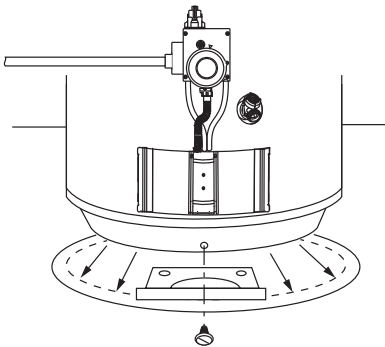

Figure 20: Setting the Water Heater in place.
- 6** Set the water heater in place against the lip of the duct assembly as shown in Figure 20.
5. Vertical and horizontal runs must be securely supported at 3-1/2 foot (1.07 m) intervals. See Figure 20.